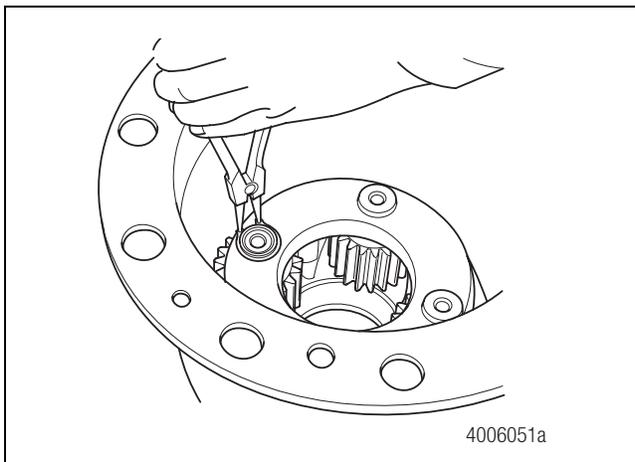

Figure 3.4
1. Remove the snap rings from the end of the planetary pinion shaft. Figure 3.4.